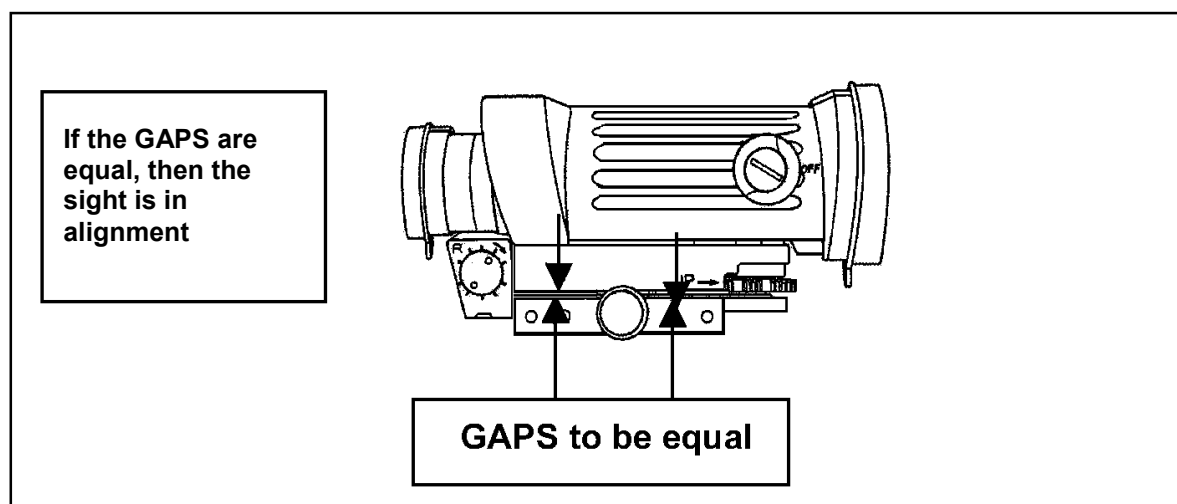

Figure G-44. GAPS to be equal.
(1) Adjust the straight telescope so that the weapon's barrel and the optical sighting axis are in alignment. The sighting axis is about 2 to 3 inches above the machine gun barrel, and therefore the strike of the bullet at a 10-meter range is also about 2 to 3 inches low without further zeroing adjustment (Figure G-44). To bring the strike of the bullet up, lift the silver lock and rotate the elevation adjustment dial counterclockwise (to the right) about one full turn.